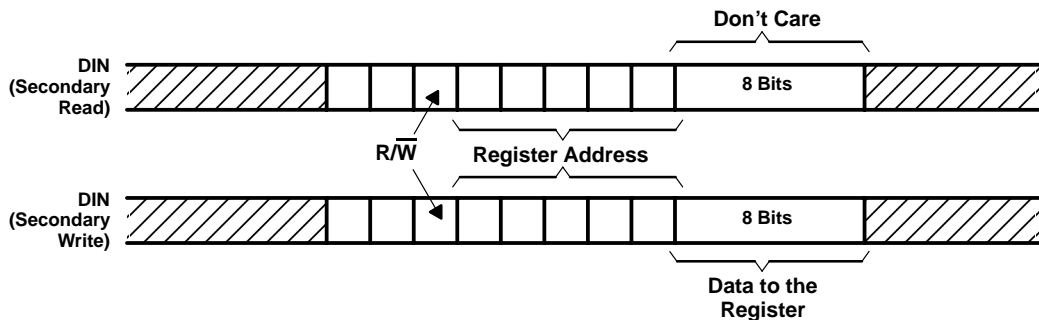

Figure 3–4. Secondary DIN Format
In Figure 3–5, FC clocks in and latches on the rising edge of frame sync (\overline{FS}). This causes the start of the secondary update 32 FCLKs (see Fk divide register, Appendix A) after the start of the primary communication frame. Read and write examples are shown for DIN and DOUT.
2. Figure 3–6 shows the use of software function control.